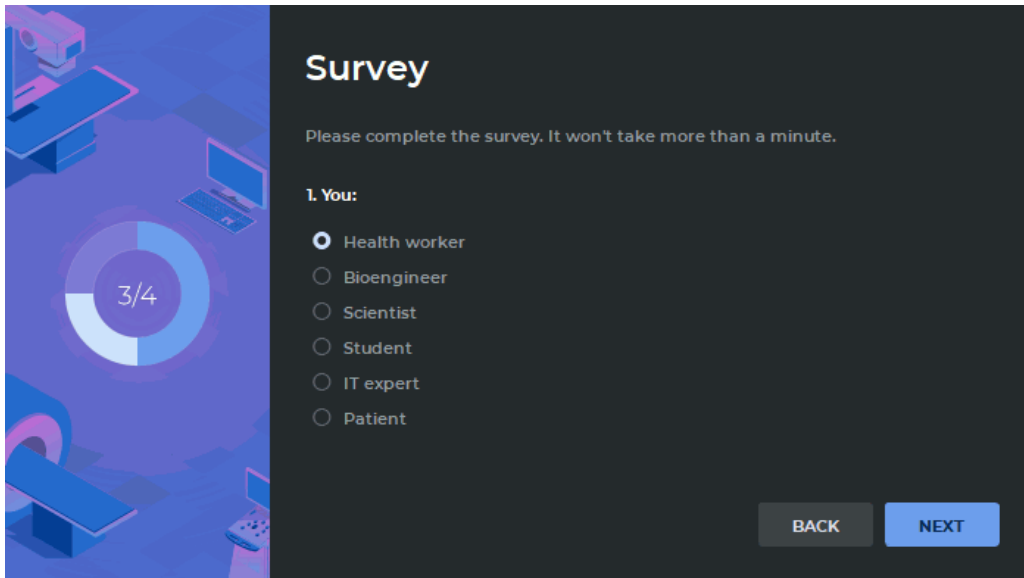

Figure 21: The first survey question
3. Take part in the survey by answering the two questions on the **Survey** pages (Fig. 21 and 22).